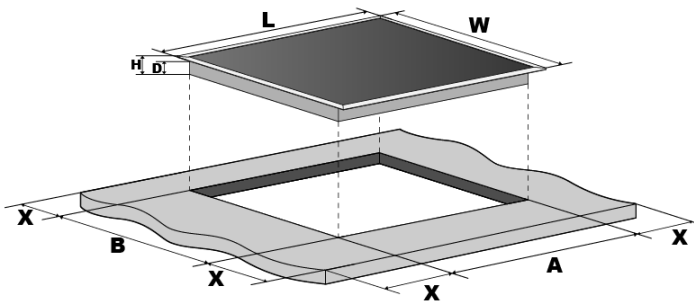

Fig.1
- Cut the work surface according to the dimension shown in the above table (Fig.1)
- A minimum of 50mm space shall be kept around the hole (refer to “X” in Fig.1)